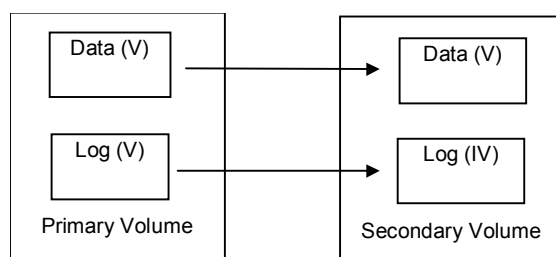
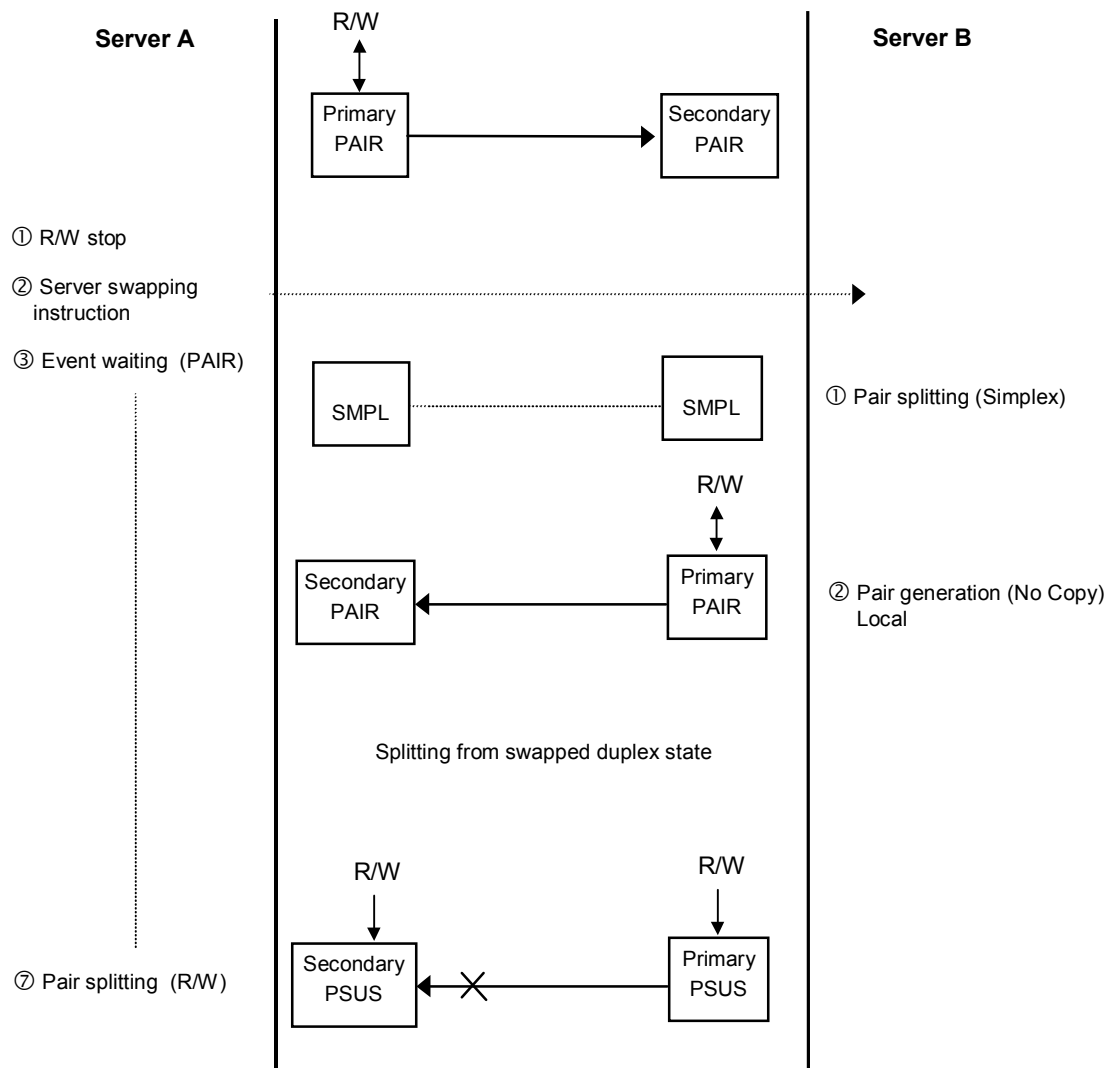

Figure 2.12 Relation between Logs and Data in Paired Status
Figure 2.17 Swapping Paired Volume for Duplex Operation — Hitachi TrueCopy Only
Figure 2.12 shows the relations between redo log files (journal) and data files. If the S-VOL takes over from the P-VOL in the status shown in Figure 2.12 (where two errors have occurred), the secondary host leaves data (V) unprocessed in the roll-back processing and cannot be recovered completely. Therefore, the fence level of a redo log file must be defined as data. Once the fence level is set to data, the P-VOL returns an error if data may possibly be inconsistent when a write request is issued by the host. Since the writing into the data file has not been executed due to a write error of the redo log file, the log file stays consistent with the data file. However, when the fence level is set to data, a write I/O error occurs even in the case where operation is suspended due to an error in the S-VOL. Accordingly, the duplication becomes meaningless when the S-VOL takes over. Thus, applications using paired volumes with the data fence level should be able to handle write I/O errors properly. For example, the Oracle application creates multiple redo log files by itself (three by default). The fence level can be set to data in this case in which disk errors are permissible by creating multiple file.
This section provides examples of tasks which can be performed using Hitachi TrueCopy and/or ShadowImage commands (see Figure 2.12 - Figure 2.17):